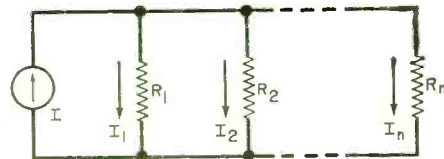

Fig. 19
B. Current Divider. An example of a current divider is shown in Fig. 19. Since the resistors are connected in parallel and the same voltage is across each, the current in R_n is: $I_n = G_n I / (G_1 + G_2 + \dots + G_n)$. For two resistors, R_1 and R_2 , in parallel: $I_1 = G_1 I / (G_1 + G_2) = R_2 I / (R_1 + R_2)$
Ex. 18. In Fig. 19, assume $n = 2$, $R_1 = 15$ ohms, $R_2 = 10$ ohms, and $I = 10$ A. Find the currents in R_1 and R_2 . **Sol.** $I_1 = R_2 I / (R_1 + R_2) = 10 \times 10 / (15 + 10) = 4$ A. $I_2 = R_1 I / (R_1 + R_2) = 15 \times 10 / (15 + 10) = 6$ A.